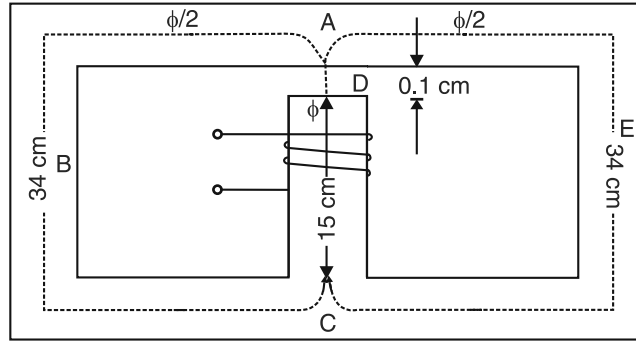

Fig. 8.28
**Example 8.20.** A magnetic circuit made of wrought iron is arranged as shown in Fig. 8.28. The central limb has a cross-sectional area of  $8 \text{ cm}^2$  and each of the side limbs has a cross-sectional area of  $5 \text{ cm}^2$ . Calculate the ampere-turns required to produce a flux of  $1 \text{ mWb}$  in the central limb, assuming the magnetic leakage is negligible. Given that for wrought iron (from B-H curve),  $H = 500 \text{ AT/m}$  at  $B = 1.25 \text{ Wb/m}^2$  and  $H = 200 \text{ AT/m}$  at  $B = 1 \text{ Wb/m}^2$ .